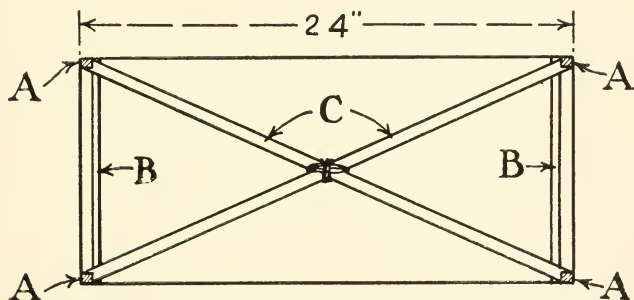

FIG. 26. — Cross-Section of the Box-Kite.
**Assembling the Kite.** Slip the bands over the side frames, spread the frames to their fullest extent, and hold them in this position by means of sticks sprung in temporarily between upright sticks *B*. Then measure the proper length for the diagonal braces *C* (Fig. 26). These sticks should be notched at their ends to fit over the sticks